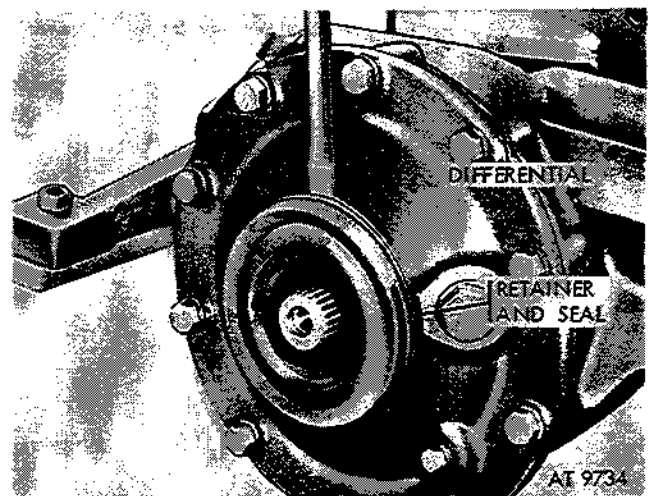

Figure 2-306. Pry retainer and seal from differential.
(1) Remove differential carrier side gear flange (para 2-135).
(2) Pry side gear flange seal and retainer from differential as shown in figure 2-306.